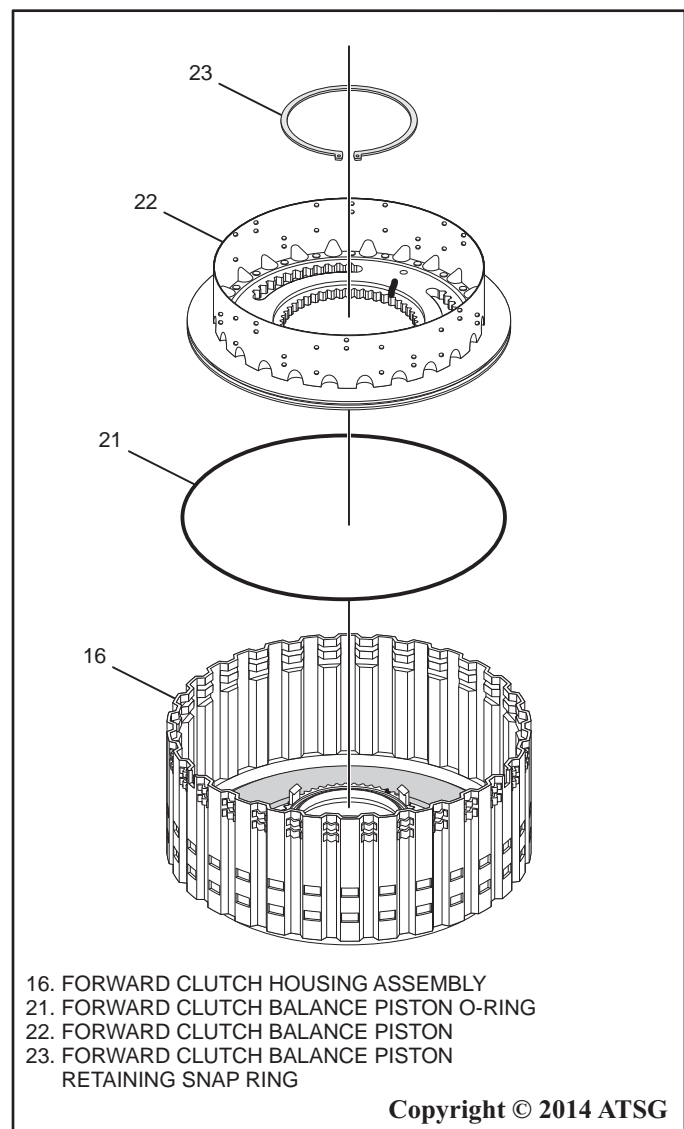

Figure 85
32. Using ST 307-525 Clutch Spring Compressor or similar tool, carefully compress the forward clutch balance piston and remove the retaining snap ring using a suitable pair of snap ring pliers. Then remove and discard the o-ring seal as shown in Figure 85.